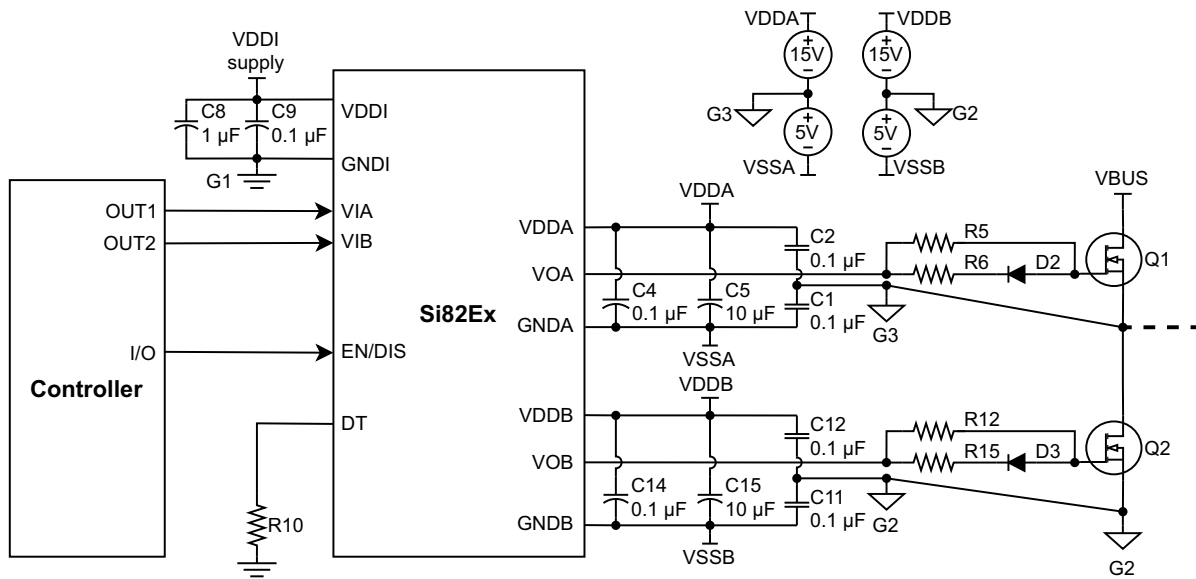

Figure 17. Bipolar Output Connection
Figure 17, “Bipolar Output Connection,” on page 19 is similar to the above high-side/low-side configuration except that the drivers produce bipolar  $V_{GS}$  output voltage. The bipolar  $V_{GS}$  output requires the system to provide positive and negative voltage sources. Please note that the bootstrap circuit cannot be used to share the low-side voltage sources with the high-side gate driver A for a bipolar  $V_{GS}$  output application. In this example, +15 V and –5 V sources are used for low-side gate driver B, and its reference point is also G2. The other set of +15 V and –5 V sources are used for the high-side gate driver A. The high-side voltage sources' reference G3 is electrically connected to FET Q1's source. Please note that the voltage potential at FET Q1's source jumps between VBUS and reference G2. Thus, the high-side voltage sources need to be isolated from reference G2 as well.
- If the system is designed to provide a bipolar  $V_{GS}$  output, additional bypass capacitors (C1, C2, C11, and C12 in Figure 17, “Bipolar Output Connection,” on page 19) are required to minimize the return path length of the gate drive signals.